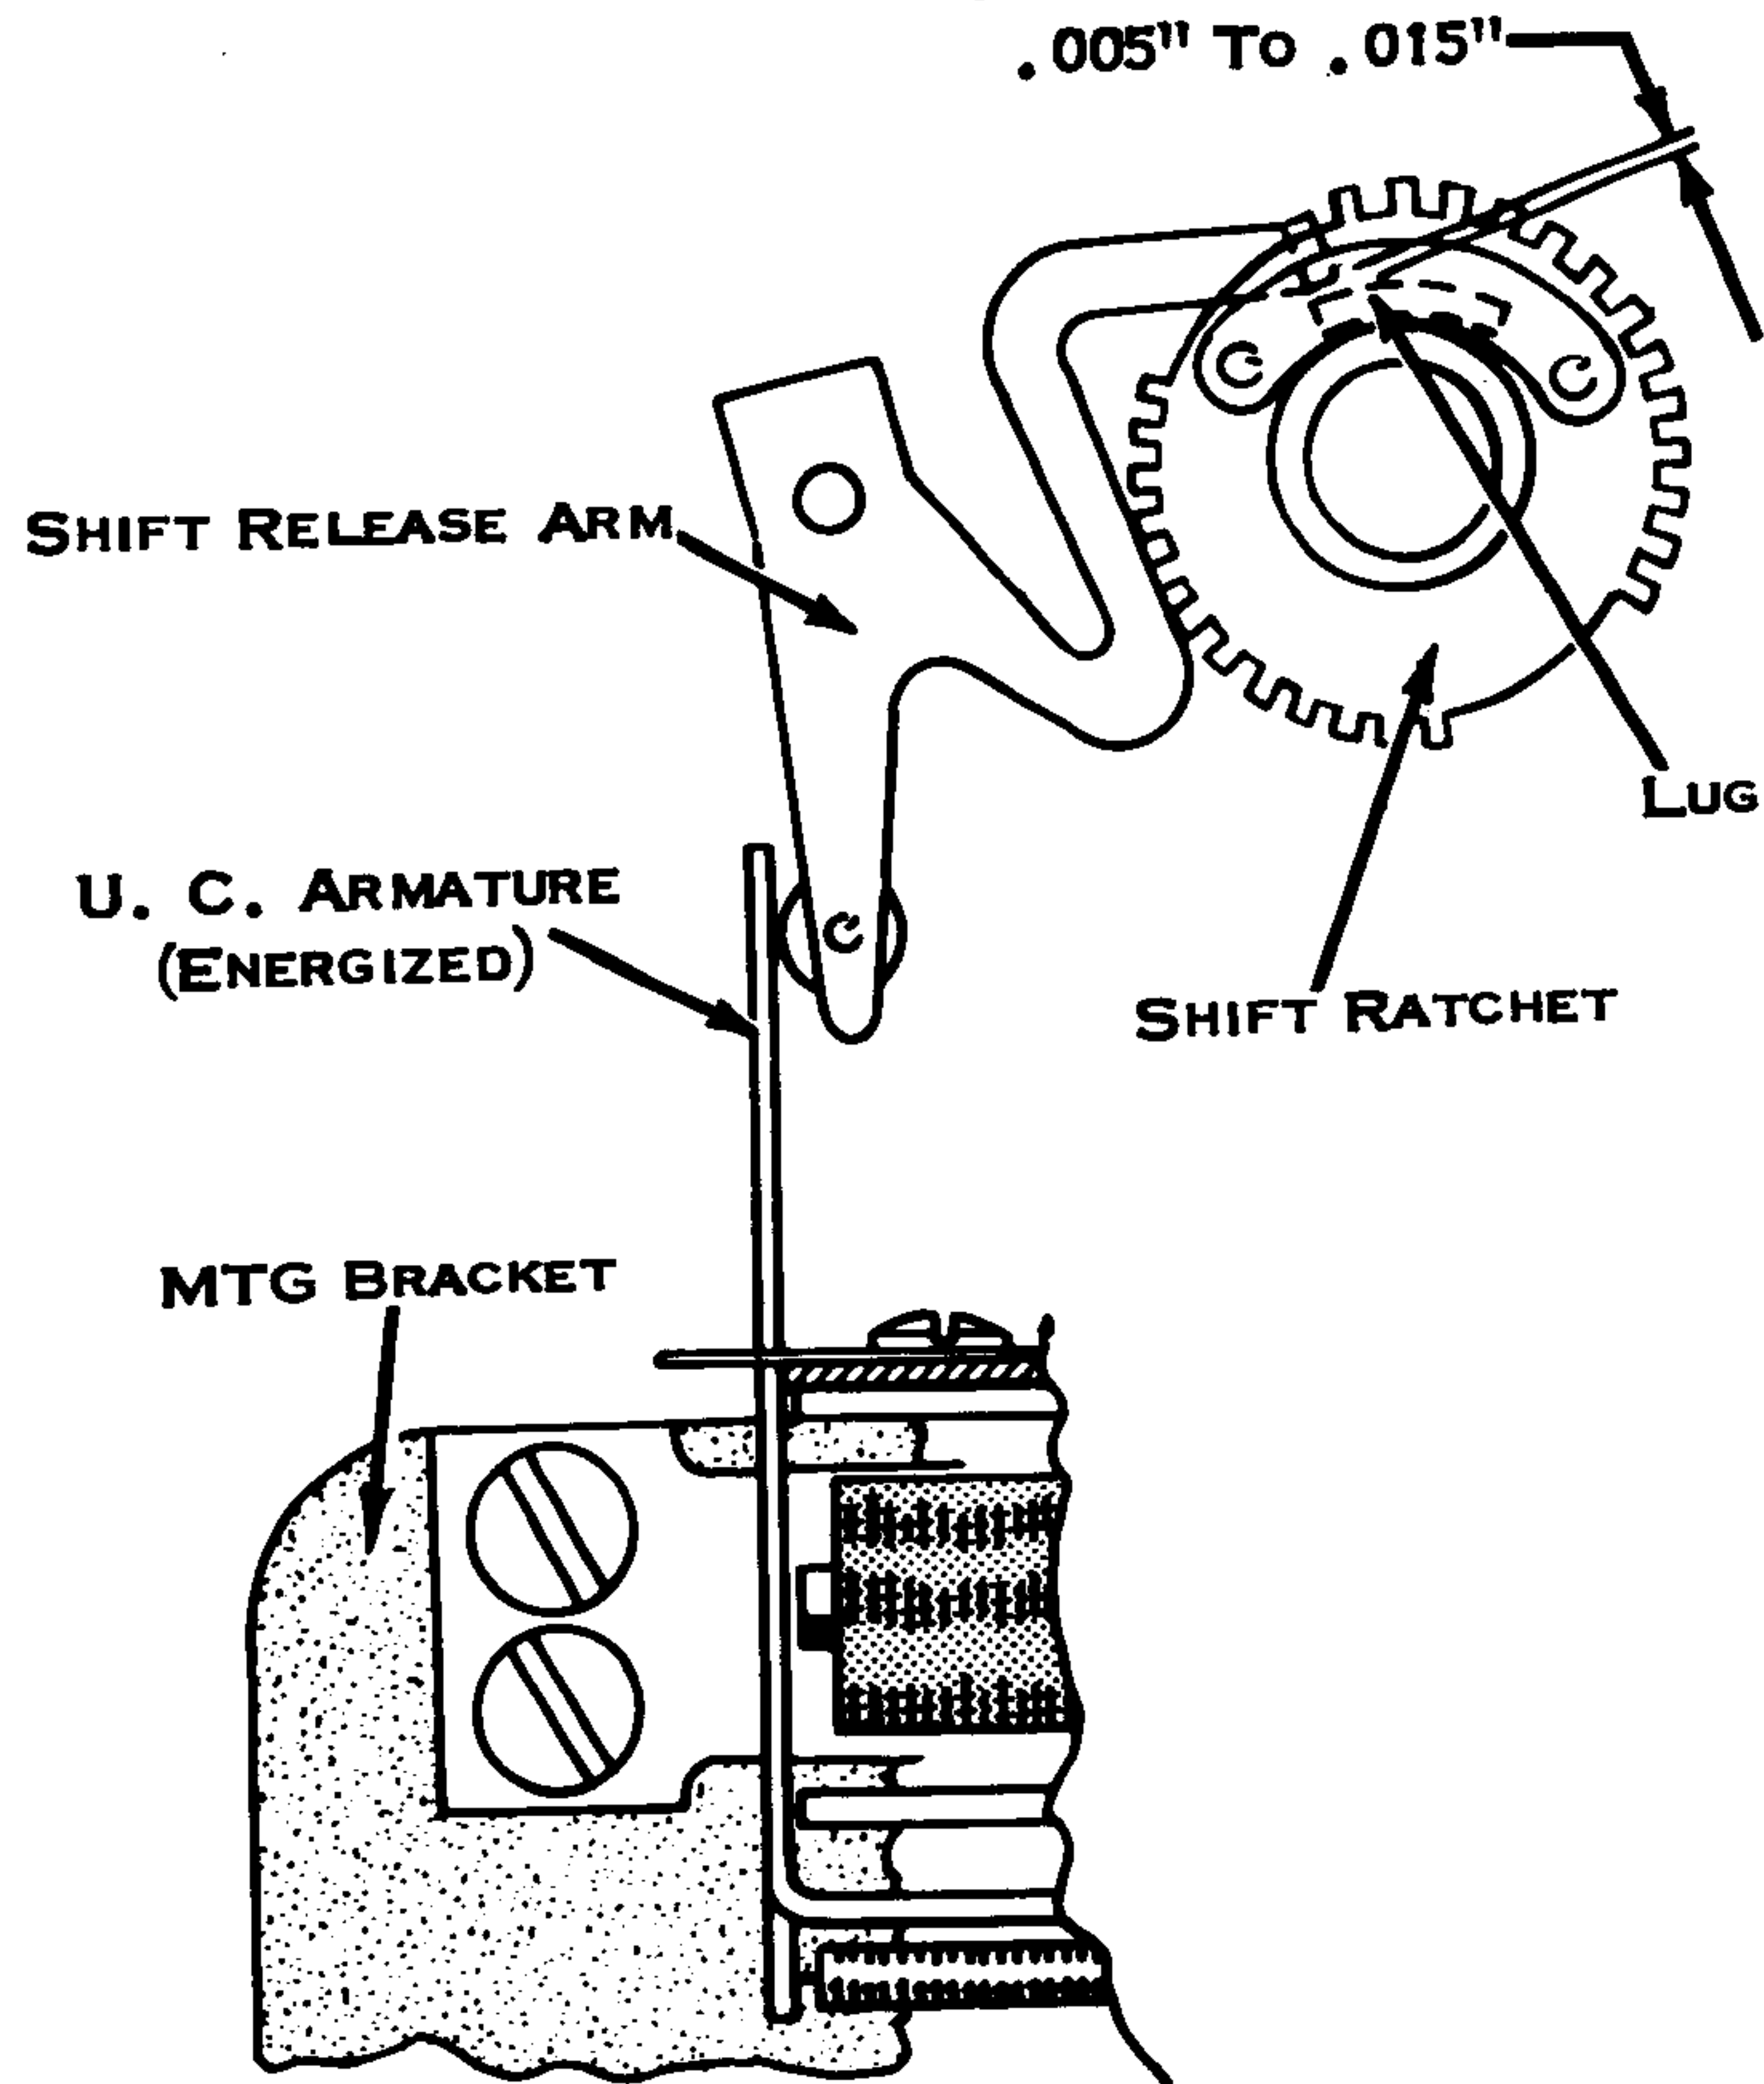

Figure 99. Magnet Assembly Mounting Bracket
- b. 15 Inch Machine (Fig. 99) - Position the magnet assembly mounting plate (UC armature energized) so that the release arm clears the shift ratchet lug by .005" to .015".